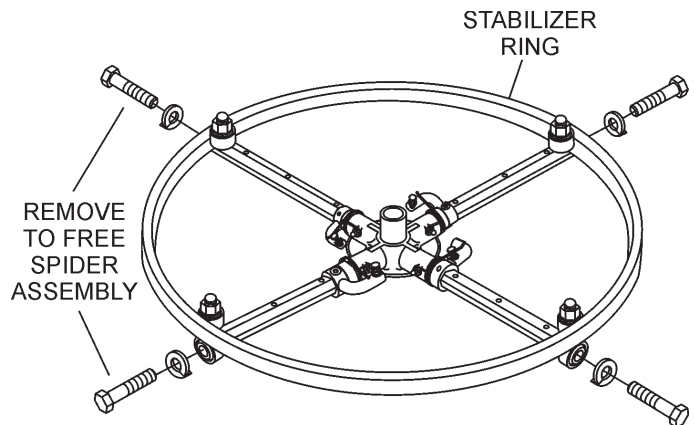

Figure 44. Stabilizer Ring
- c. If the trowel is equipped with an outer stabilizer ring (Figure 44), remove the four bolts at the end of each spider arm.